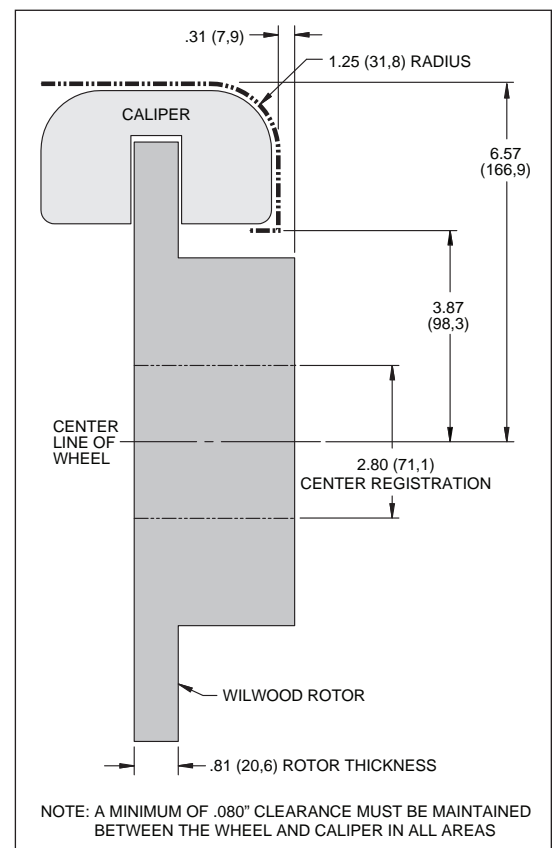

Figure 4. Wheel Clearance Diagram
- Review the Wheel Clearance Diagram (Figure 4, page 3) to verify that there is adequate clearance with the wheels you will be using with the installation.
• Verify your wheel clearance using Figure 4.